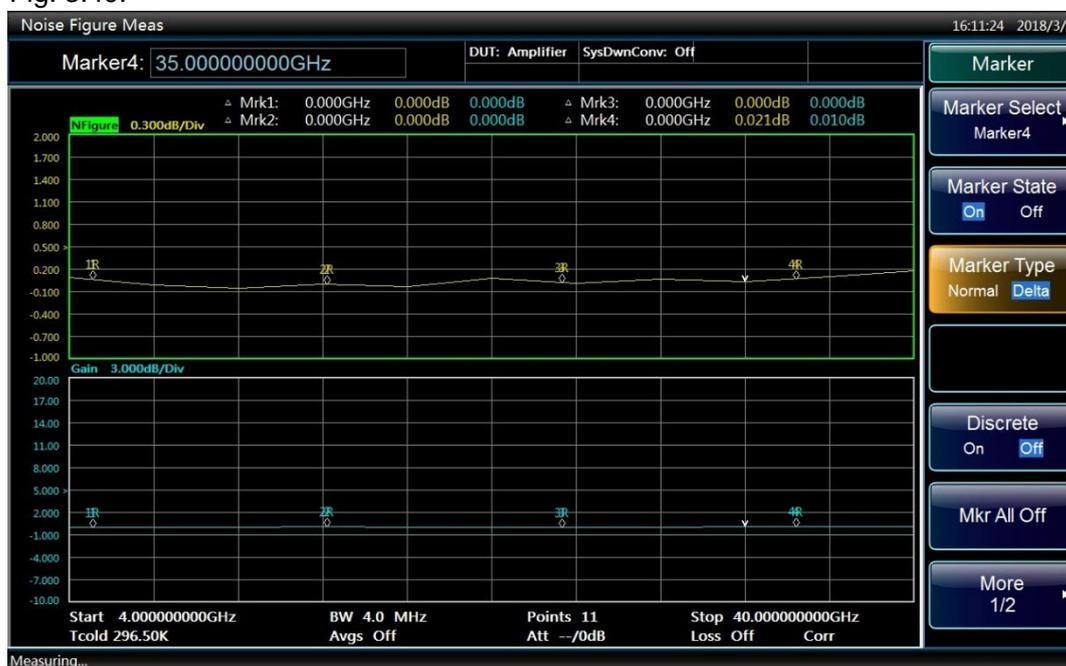

Fig. 3.40 Four delta markers
Step 5. Press the [Marker type] menu key to set it to [Marker Type Normal **Delta**] mode, as shown in Fig. 3.40.